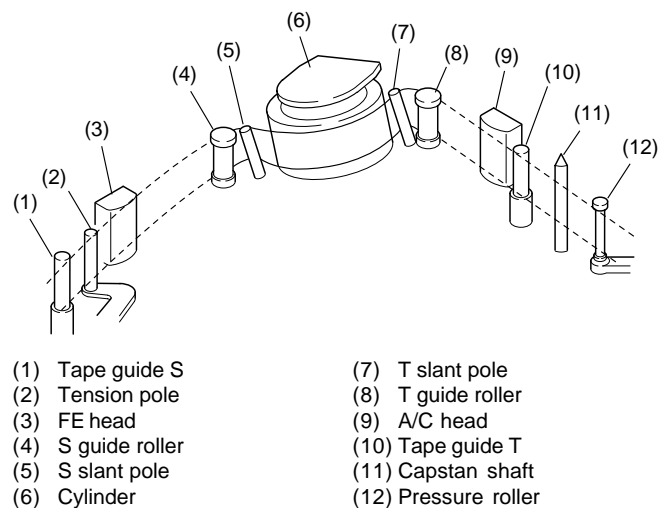

Fig. 2-3
### (2) Cleaning transport system (Fig. 2-3)